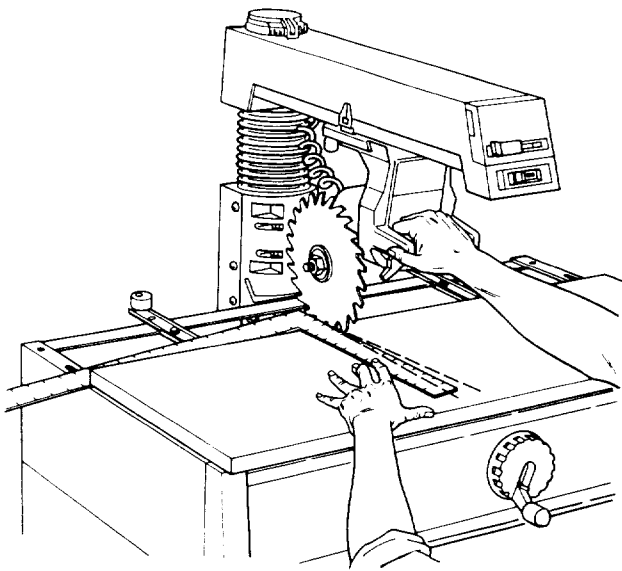

Fig. 62
7. Lay a framing square on the *front table* with the long edge along the back of the *table* and the short edge alongside the *blade*. (Figure 62)
8. Move the framing square toward the *blade* until a tooth of the *blade* just touches the edge of the square. (Figure 62)
If the marked tooth moves away from the square or tries to “walk” on top of it, go to step 12 (Figure 62)